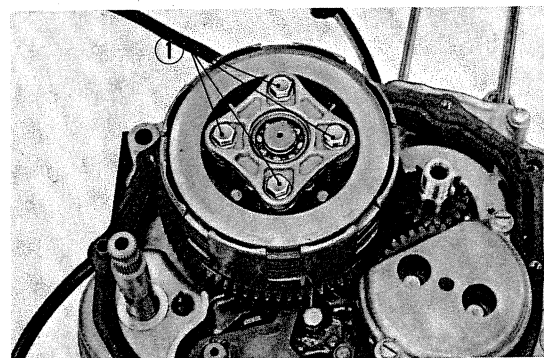

Fig. 65 Clutch removal
⑦ Clutch lifter guide pin ⑧ Clutch spring
- 2) Remove four 6mm bolts and remove the clutch lifter plate. (Fig. 65)